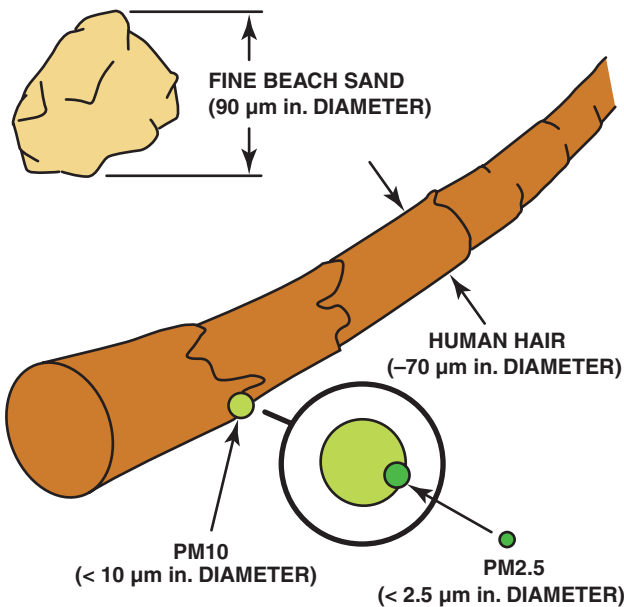

FIGURE 11-22 Relative size of particulate matter to a human hair.
- **PM2.5.** Refers to particulate matter of 2.5 microns or less (approximately 1/20 the diameter of a human hair), also called “fine” particles. In July 1997, the EPA approved a standard for PM2.5. ● **SEE FIGURE 11-22.**